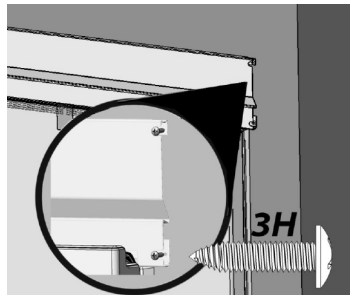

Fig. 23
- b. Drill  $\frac{1}{8}$ " pilot holes and fasten two 3H screws on the right side of the Top Trim (one screw per side for Collared top trim) with a Phillips screwdriver to the cabinets (Fig. 23).